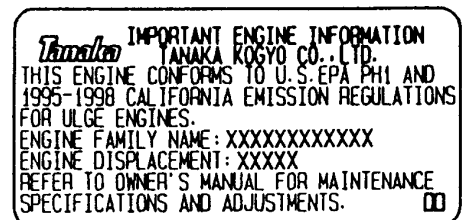

Fig. 3-1C
**NOTE FOR THE US MARKET! (Fig. 3-1C)**